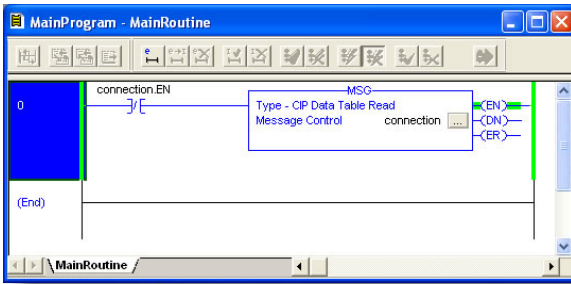

Figure 109: Complete Program
6) The program is now complete. Refer to Figure 109.